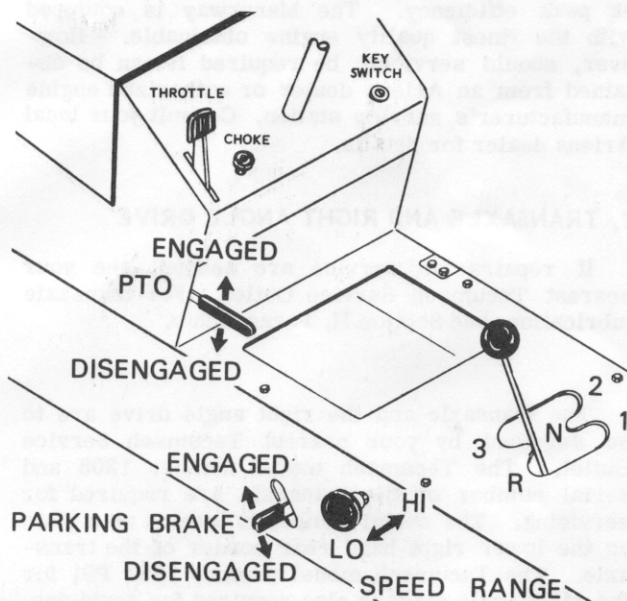

Figure 8
a. Disengage the PTO clutch by placing PTO clutch lever in DOWN position. See Figure 8. Engine cannot be started unless PTO is disengaged.
a. Shifting the transaxle into any one of the three forward or one reverse speeds. See figure 8.
b. Moving the speed range control into one of two speed ranges: HI or LO. See figure 8.
Any of the tractor attachments utilizing the power take off are engaged and disengaged by moving the PTO lever up or down. The PTO lever is located on the left side under the tractor dash. See figure 8. Move the lever up to engage the PTO. Move the lever down to disengage the PTO.